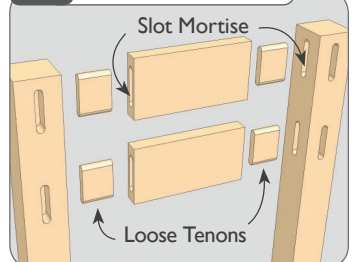

Fig. 3 Router Table Configuration
1. In typical router table cutting operations, router lifts are installed in the table with the crank handle located so that it is between the router bit and your router table's miter slot. In order to use your new STS Slot Mortiser, you'll need to rotate the router lift in your table opening so that the router bit is between the miter slot and the crank handle, **Fig. 3**